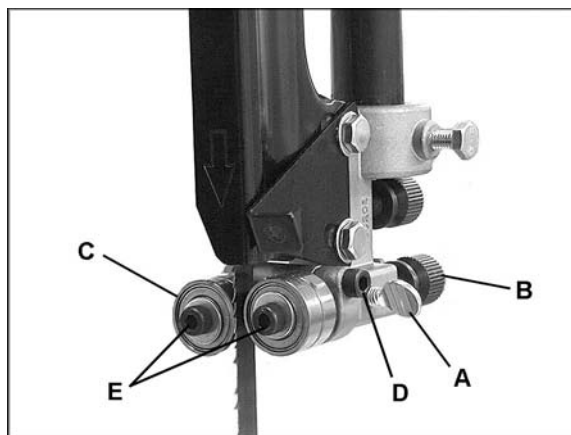
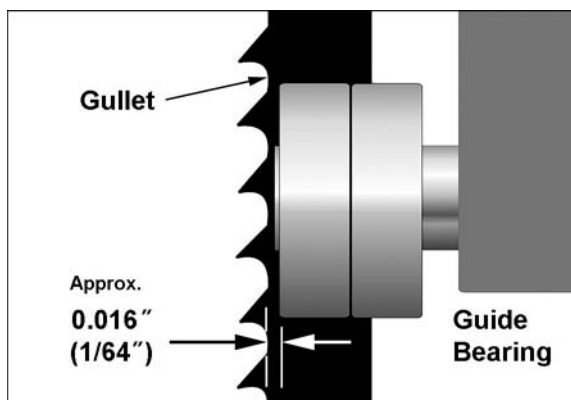

Figure 47
Figure 48
Refer to Figures 47, 48, 49.
3. Loosen thumb screw (A, Figure 47) and move guide block by turning knob (B) so that the front of the guide wheels (C) are just behind the gullet (curved area at base of tooth) of the blade, as shown in Figure 48. This distance is usually about 0.016" (or 1/64").
4. Tighten thumb screw (A, Figure 47).
5. Loosen the socket screw (D) and turn the screw (E) on each guide wheel to move the guide wheels about 0.004" from the blade. (A quick way to set this distance is to place a crisp dollar bill, which is approximately .004" thick, between guide wheel and blade, and move the guide until it just contacts the bill.)
6. Tighten socket screw (D) when adjustment is satisfactory.